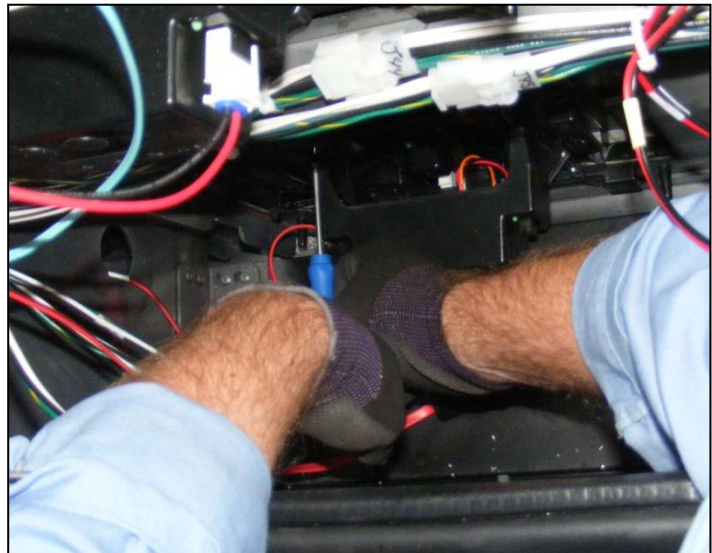

Figure 13: Removing Power Supply Screws
3. Using the Torx driver, remove the four screws that secure the power supply to the module. Refer to **Figure 13**.